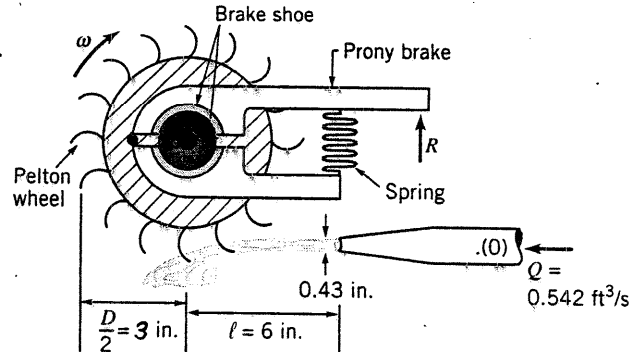

FIGURE P12.64
12.64 The device shown in Fig. P12.64 is used to investigate the power produced by a Pelton wheel turbine. Water supplied at a constant flowrate issues from a nozzle and strikes the turbine buckets as indicated. The angular velocity,  $\omega$ , of the turbine wheel is varied by adjusting the tension on the Prony brake spring, thereby varying the torque,  $T_{\text{shaft}}$ , applied to the output shaft. This torque can be determined from the measured force,  $R$ , needed to keep the brake arm stationary as  $T_{\text{shaft}} = Fl$ , where  $l$  is the moment arm of the brake force.